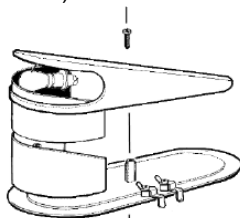

figure 18
- 3 - Replacement of lighted top cover bulb: remove the fixing screw placed in the upper part of the top cover, remove the lower part and replace the bulb (using a 24-28V 21W max bulb). Reassemble the top cover and replace the fixing screw. (vedere figure 18)